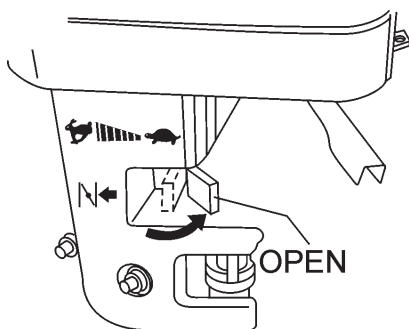

Figure 13. Choke Lever (Open)
- If the engine has started, slowly return the choke lever (Figure 13) to the **OPEN** position. If the engine has not started repeat steps 1 through 6.